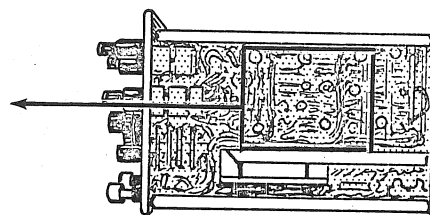

Figure 5-10
2. Adjust R-420 (see figure 5-10) CCW until the waveform on the test scope disappears. Bring R-420 CW again until the waveform on the test scope just re-appears.